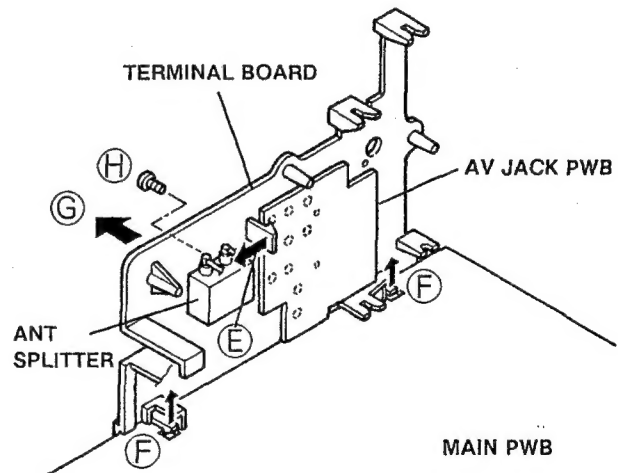
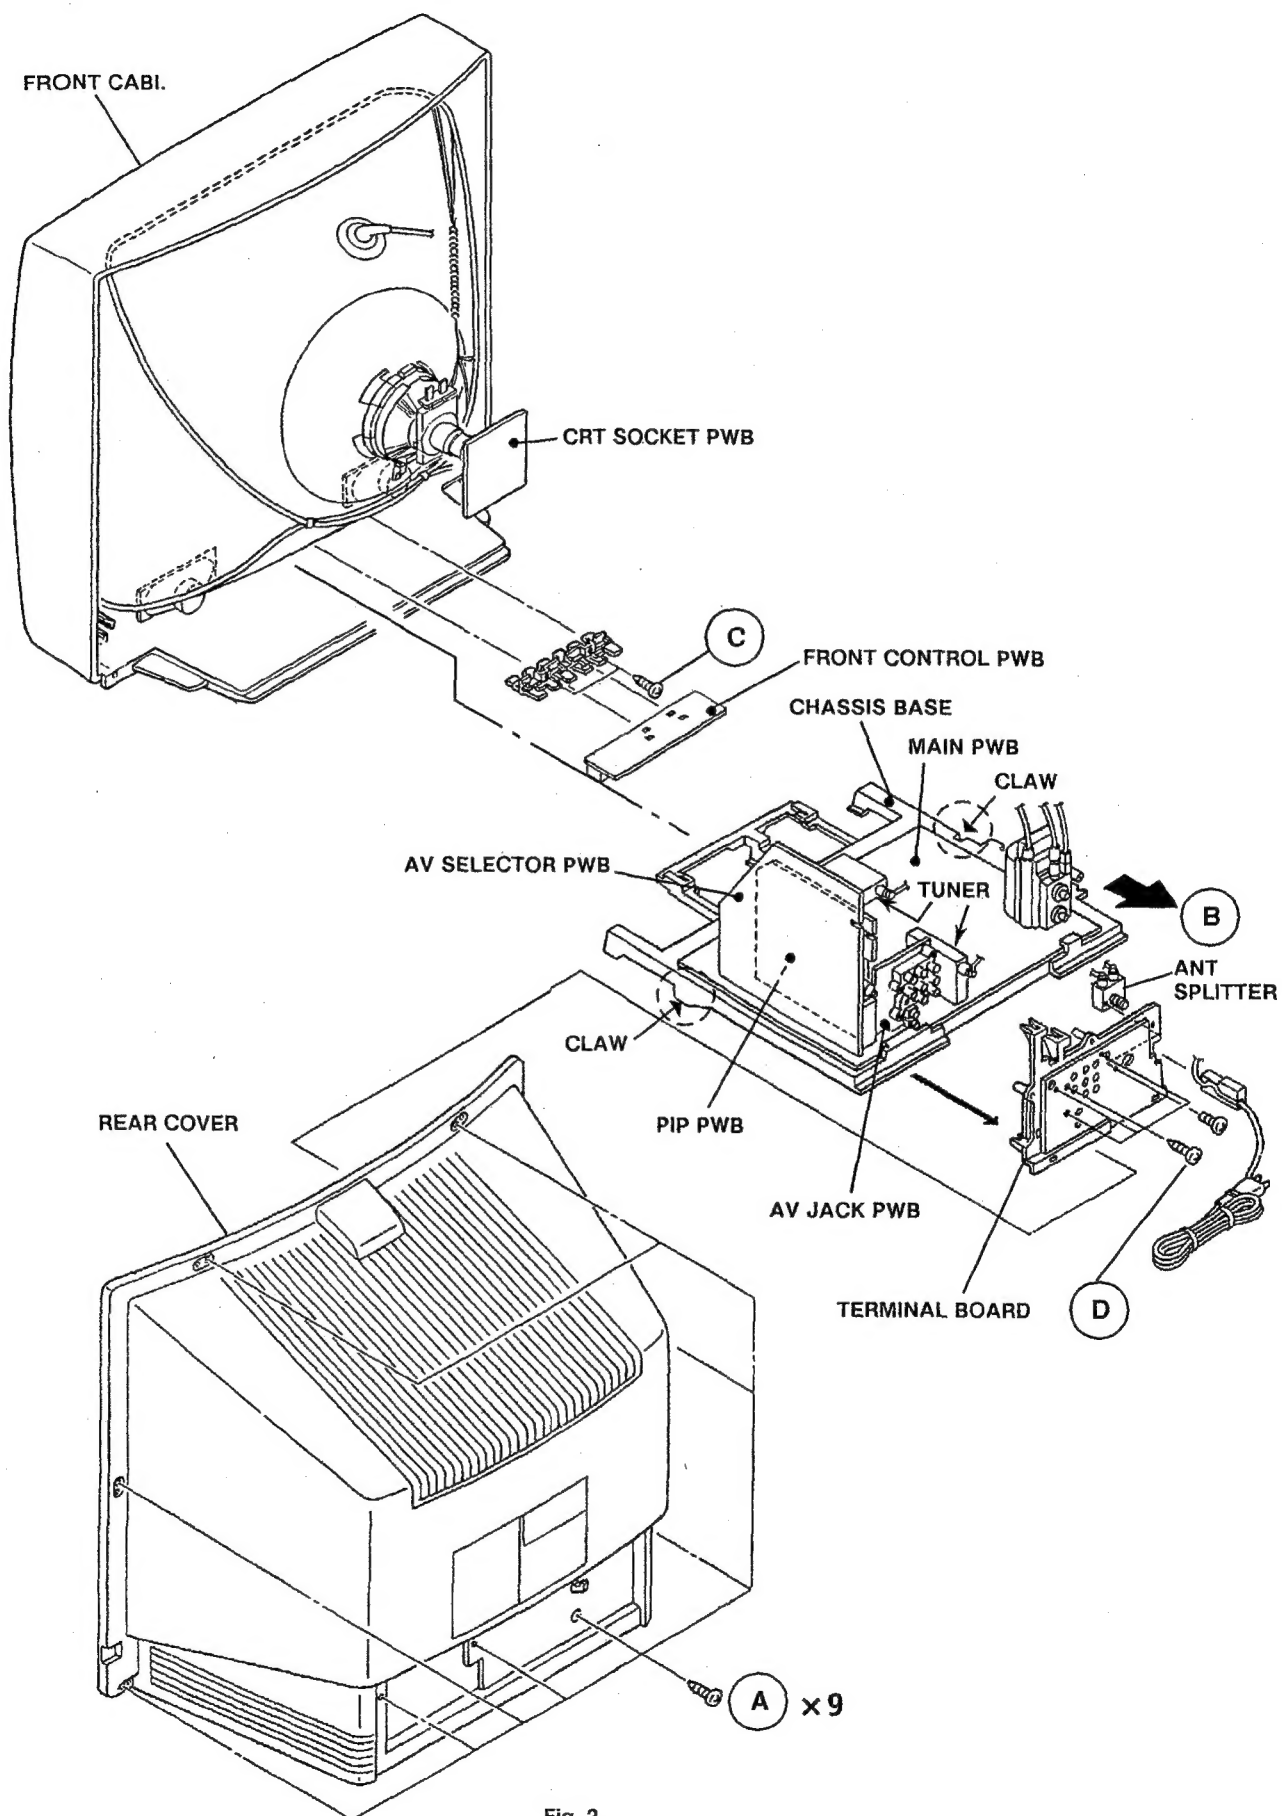

Fig.1
Fig. 2
2. Remove the nine screws marked (A) as shown in Fig. 2.
2. Draw the chassis backward along the rail in the arrow direction marked (B) as shown in the Fig. 2.
1. Remove the 2 screws marked (C) as shown in Fig. 2.
1. Remove the 4 screws marked (D) as shown in Fig. 2.
2. After removing the claw marked (E) from the AV JACK PWB in the direction of arrow mark as shown in Fig.1, remove the 2 claws marked (F) in the direction of arrow mark, then take off the TERMINAL BOARD in the direction of arrow marked (G).
1. Remove a screw marked (H) as shown Fig.1.
(1) Power off Switch off the power and disconnect the power cord from the outlet.
(2) Replace the memory IC. Initial value must be entered into the new IC.
(3) Power on Connect the power cord to the outlet and switch on the power.
(4) System constant check and setting 1) Simultaneously press the DISPLAY key and VIDEO STATUS key of the remote control unit. 2) The SERVICE MENU screen of Fig. 1 is displayed. 3) While the SERVICE MENU is displayed, again simultaneously press the DISPLAY and VIDEO STATUS keys to display the Fig. 2 SYSTEM CONSTANT screen. 4) Refer to the SYSTEM CONSTANT table and check the setting items. Where these differ, select the setting item with the MENU UP / DOWN key and adjust the setting with the MENU LEFT / RIGHT keys. (The letters of the selected item are displayed in yellow.) 5) After adjusting, release the MENU LEFT / RIGHT key to store the setting value. 6) Press the EXIT key twice to return the normal screen.	 <p>Fig. 1</p>
(5) Receive channel setting Refer to the OPERATING INSTRUCTIONS (USER'S GUIDE) and set the receive channels (Channels Preset) as described.
(6) User settings Check the user setting items According to Table 2. Where these do not agree, refer to the OPERATING INSTRUCTIONS (USER'S GUIDE) and set the items as described.	 <p>Fig. 2</p>
(7) SERVICE MENU setting Verify what to set in the SERVICE MENU, and set whatever is necessary. (Fig. 1) refer to the SERVICE ADJUSTMENT for setting.